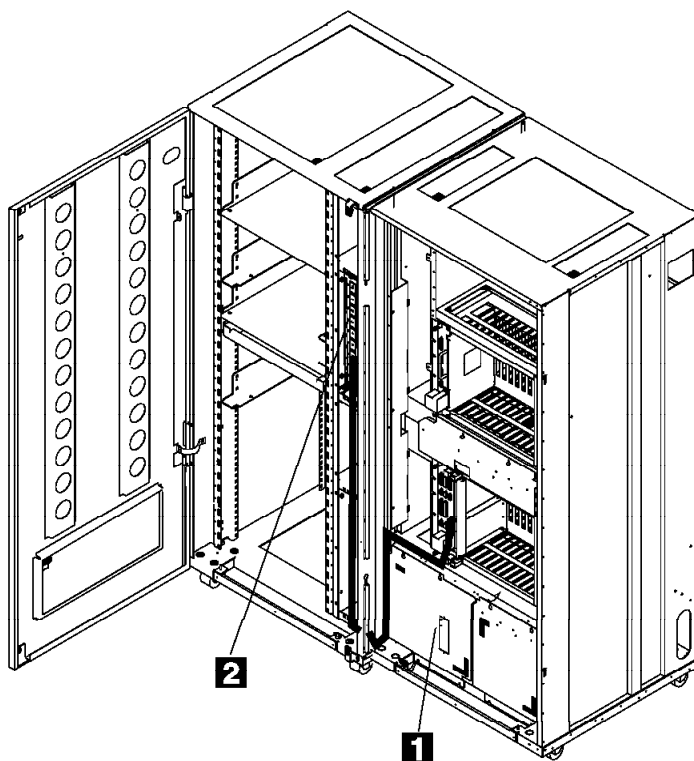
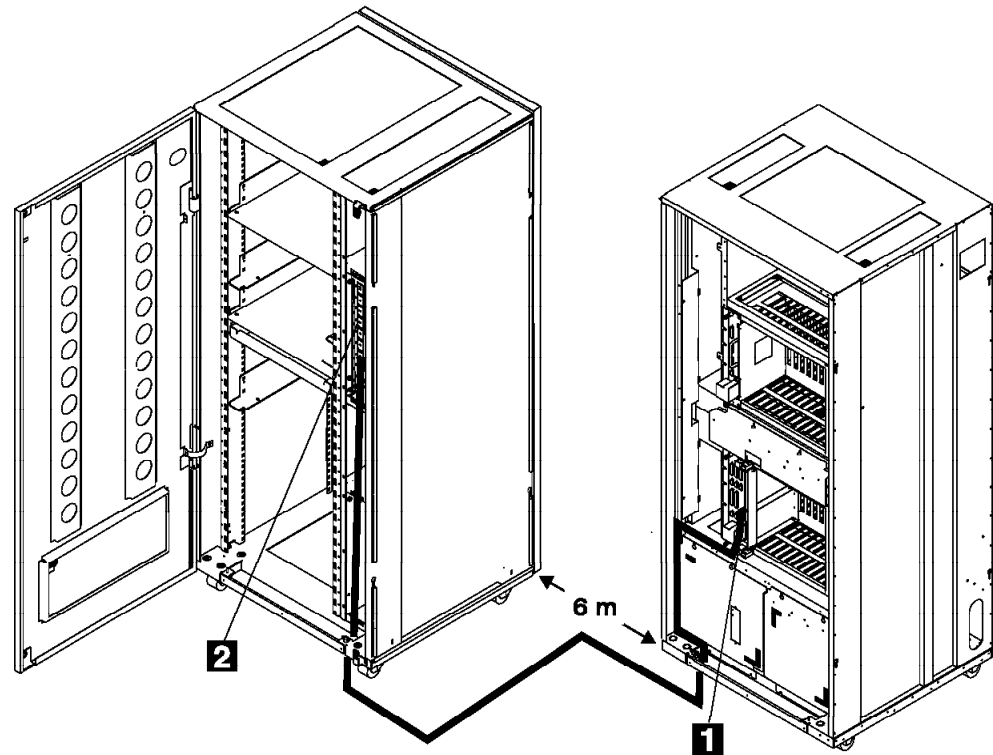

Figure 15. Routing the Cable from a TIC3 to a 8228 (Controller Expansion Attached)
Figure 16. Routing the Cable from a TIC3 to a 8228 (Controller Expansion Detached)
- ___ 2. Route and connect the **8228** to the TIC3 using the token ring attachment cable PN 76F9441 (9 m, 27 ft). To route the cable, refer to Figure 15 on page 25 or Figure 16 on page 26.